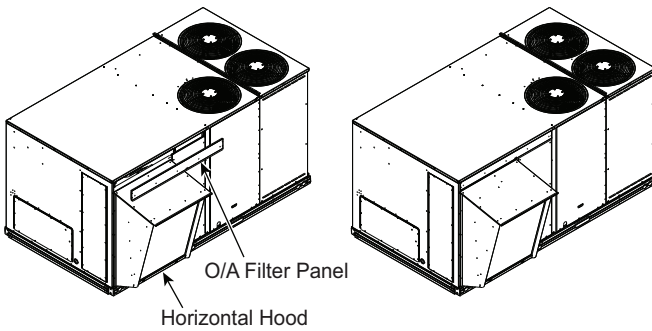

Fig. 8 — Attach the Filter Access Panel and Hood
15. Attach the horizontal economizer hood and filter access panel, see Fig. 8.